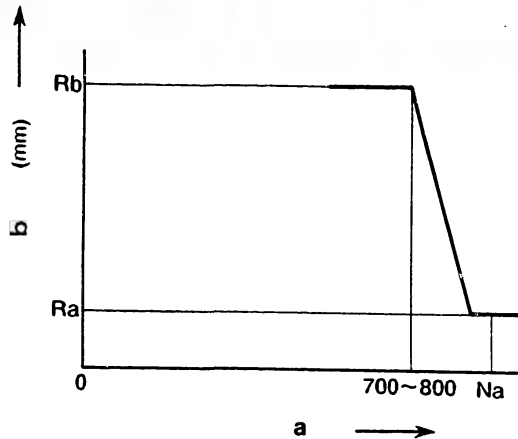

Fig. 146
3. Increase the pump speed to "Na rpm" and adjust using the full load stopper bolt (48) so that the control rod position is "Ra" (refer to Figs. 146 and 147).